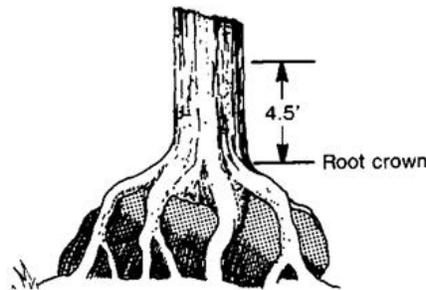

Figure 14 - Trees Growing on Objects (e.g., rocks, logs)
11. **Tree Growing on Objects:** When trees are growing on objects, such as rocks or logs, measure at 4.5 feet above the root crown rather than above the forest floor. (Figure 14). Trees that reside in water much of the year can also produce “prop-like” roots, measure diameter in a similar method at 4.5 feet above the root crown.